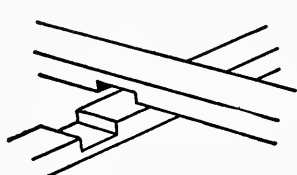
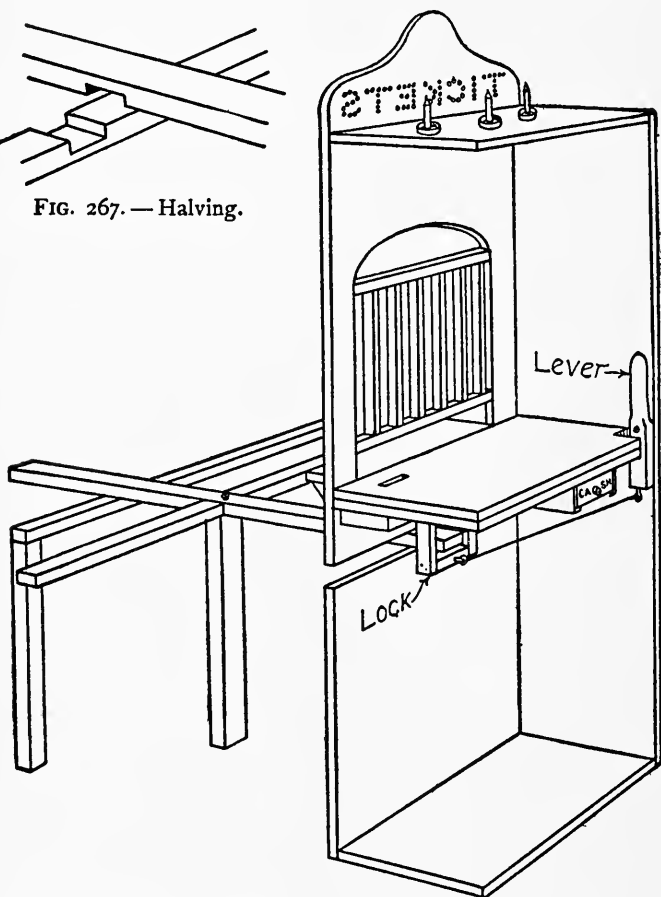
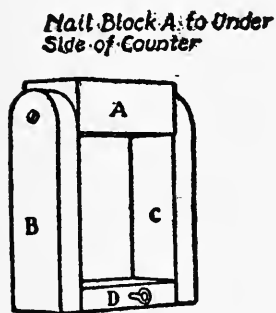

FIG. 267. — Halving.
FIG. 266. — Ticket Office and Turnstile.
FIG. 268.—Lock. FIG. 269.—Lever.
**A Ticket Office** should be built at the entrance to the yard. This can be made out of two boxes, one set on top of the other, as shown in Fig. 266. Cut an opening fifteen inches square in the front for a window, round the top, and make a guard of wooden strips
fasten strips to the under side of the counter, as shown in Fig. 266, so that a cigar-box will slide upon them.
To the top of the ticket office fasten a board cut the shape shown in the illustration, and print the word "Tickets" upon it. These letters may be illuminated for an evening performance by boring holes through them and placing candles behind (see Fig. 266).
**A Turnstile** should be made in front of the ticket office, so that all are obliged to pay their admission fee and pass through the turnstile before entering the tent (see Fig. 266; also illustration opposite page 268). The stile is made with two sticks about forty inches long fastened together at their centres, as shown in Fig. 267. This joint, known as
The turnstile should, of course, have a lock, and an arrangement similar to that shown in Fig. 266 answers the purpose. Cut a slot in the front of the lower box on a level with the top of the stile for the arms to run through (see illustration), and then prepare four blocks, such as *A*, *B*, *C*, and *D* in Fig. 268. Screw one end of *B* and *C* to the ends of *A* and fasten block *D* between the other ends of *B* and *C*, after which nail block *A* to
the under side of the counter in the position shown in Fig. 266. Prepare a lever such as is shown in Fig. 269, cut a mortise in the top of the counter for it to fit in (see Fig. 266), and pivot it to the side of the upper box. Place a screw-eye in the end of the lever and another in *D*, and connect the two with a piece of cord. Figure 266 shows an arm of the turnstile held by the lock,